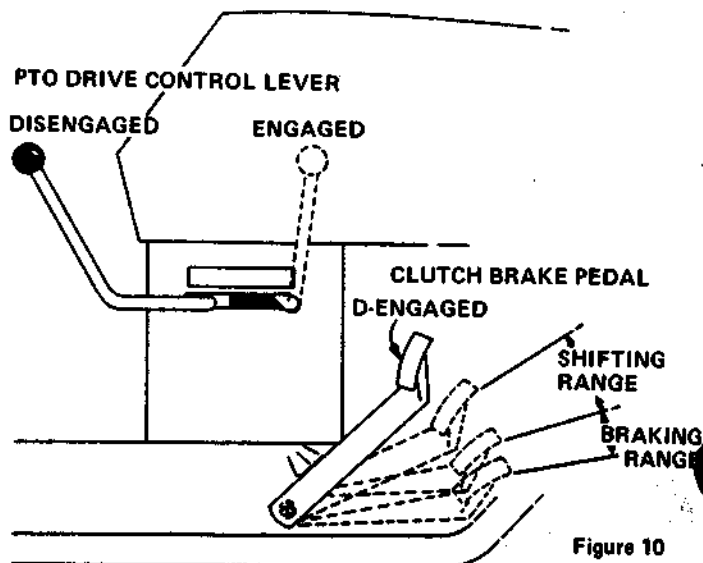

Figure 10
2. Release brake lock by depressing the clutch-brake pedal, Figure 10, until the lock disengages.
3. Depress clutch-brake pedal approximately halfway (into the shifting range) as shown in Figure 10. Place gear shift lever into the desired gear and
6. To stop the tractor, depress foot pedal to the braking range, then return it to the shifting range and place gear shift lever in neutral. Fully depress pedal and engage the brake lock when parking or leaving the tractor. (Figure 10)